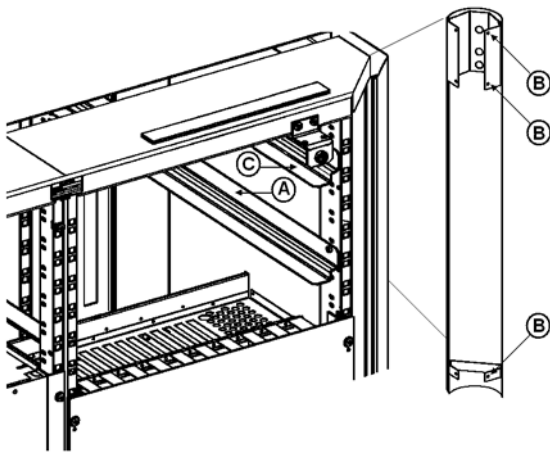

Figure 4.1 - Column and rail locations
1. Additional rails (part number C79298-A3242-C115), item C in Figure 4.1, must be added to accommodate the FDC controller.
2. Relocate the existing rails, A in Figure 4.1, for adequate airflow.
4. Mounting the rails requires removing the front and rear columns of the system. Remove the screws located at position B in Figure 4.1 to detach the columns.